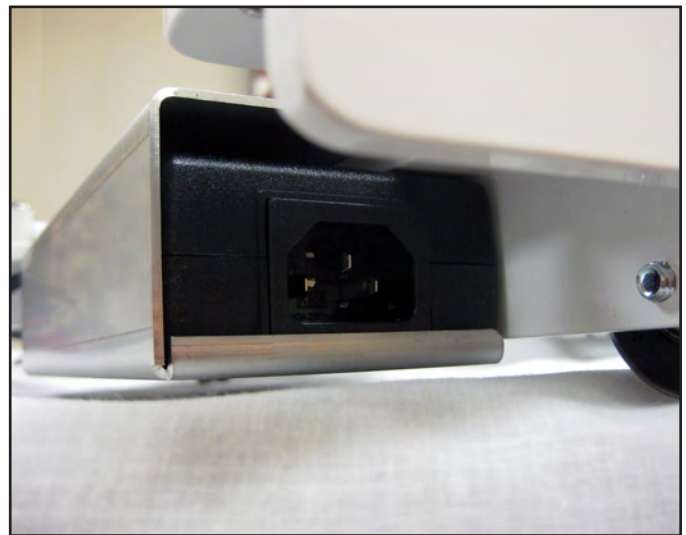

Figure 3.46
3. The “Y” end of the power cord that is not attached to the P-Pod should be attached to the power supply at the back end of the Pro-Stitcher carriage (Figure 3.46).